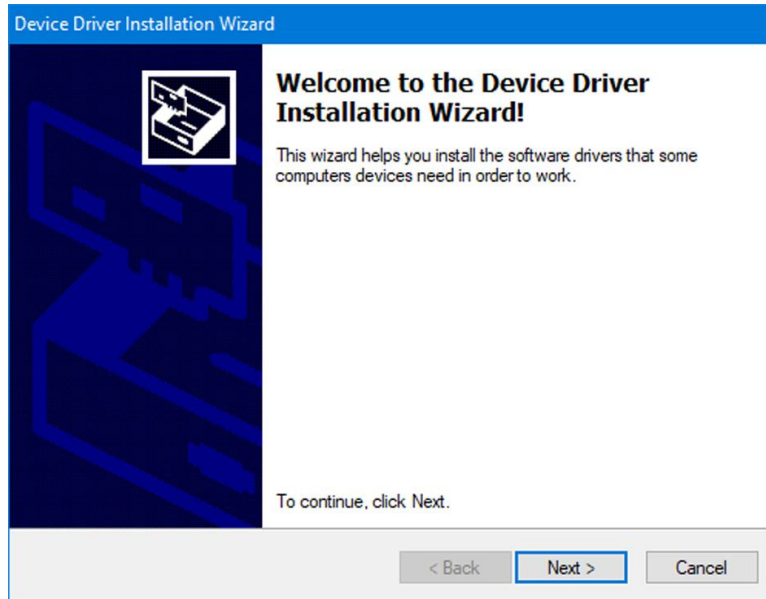

Figure A6 - Driver installation wizard
2.7. Double-click on the driver file corresponding to your Windows operating system. The device driver installation wizard will start (Figure A6). To continue the installation, click the **Next** button. To cancel the installation, click **Cancel**.